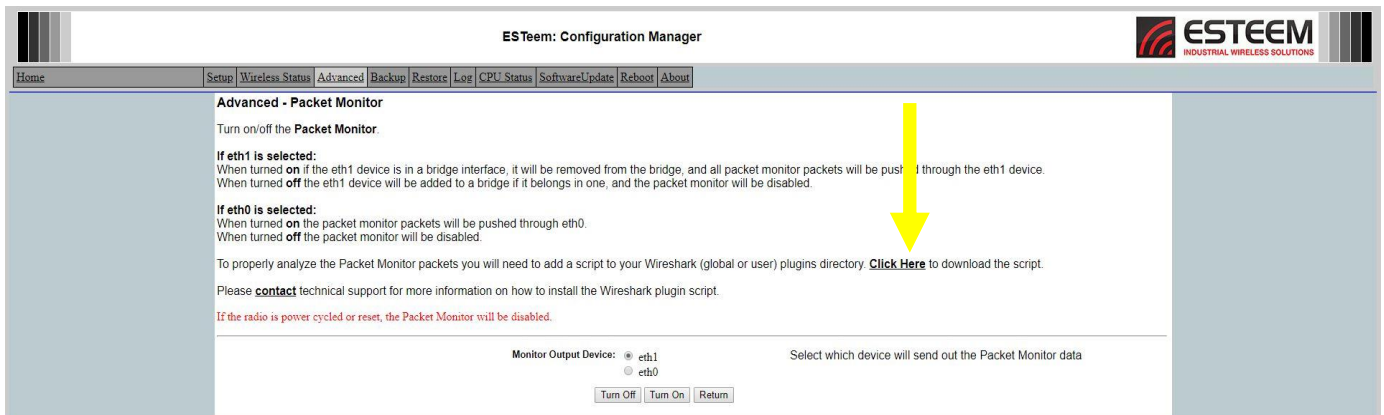

Figure 12: Wireshark Plugin
3. Download the Wireshark Plugin by clicking on the Click Here (Figure 12).